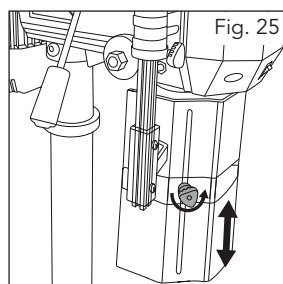

Fig. 25
2. The length of the safety guard is adjustable and can be locked in position using the guard screws (9) on either side (Fig. 25).